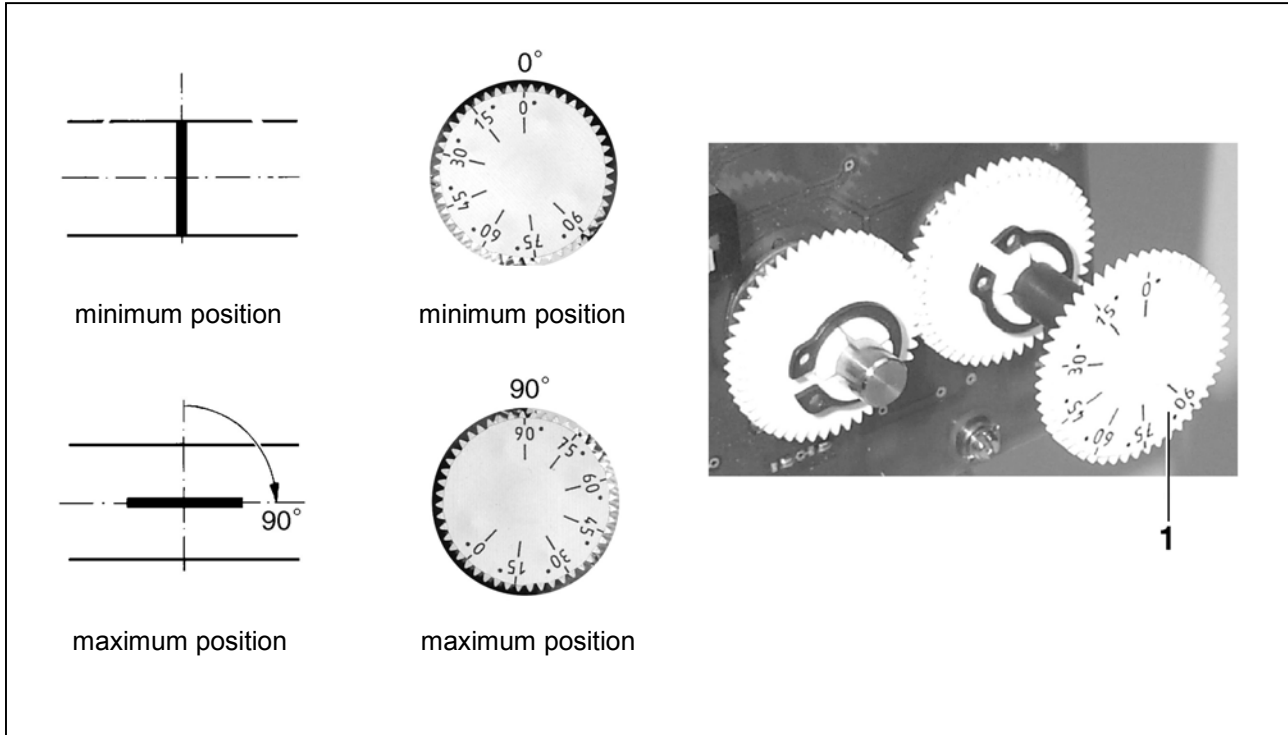

Fig. 9-3 Position controller ER 20/ER 50 - Position indicator
- Rotate the position indicator (1) into the minimum position as shown, for example, in Figure 9-3.